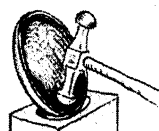

FIG. 2
3. Make the handle from No. 14 gauge metal (Fig. 2).